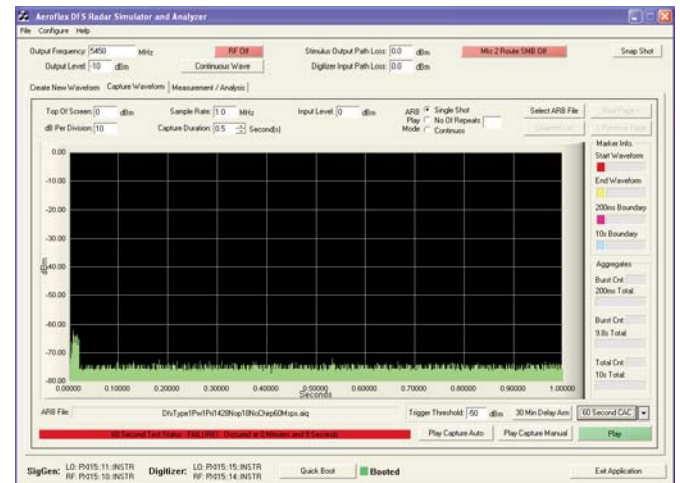

Figure 2. 60 Second Availability Check
1) 60 second Channel Availability Check - provides verification that the EUT does not transmit for a minimum of 60 seconds after turn on (Figure 2). Once the user initiates the test then, if a EUT transmission exceeds the user-defined amplitude threshold, the digitizer will capture and timestamp the offending transmission. Secondly, the FCC requires verification of correct EUT response in the presence of a radar signature at the beginning and end of the 60 second Channel Availability Check time period. The 30 minute non-occupancy test (described below) can be used for this purpose.